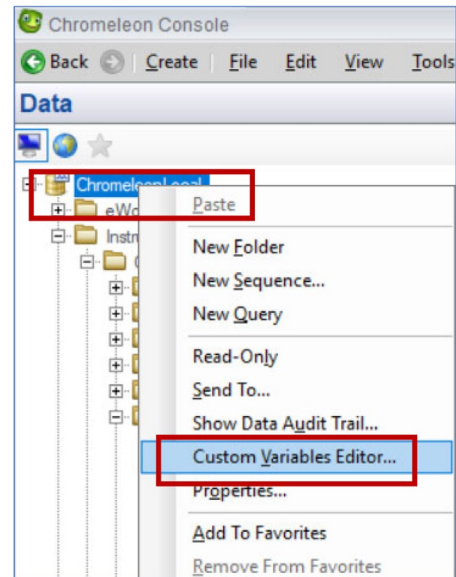

Figure 12. Accessing the custom variables editor
3. Right-click on Chromeleon Local, select *Custom Variables Editor*, and select *Add* (Figure 12).